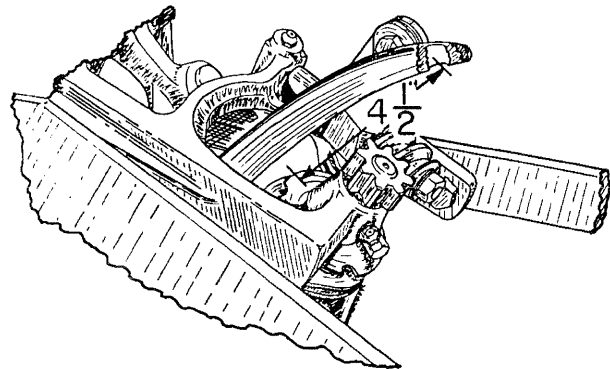

Fig.7
C. Trip the knotter and turn the flywheel clockwise by hand, until the needles are in the uppermost position. The distance from the bottom of the needle eye to the twine disc should be 4-1/2", Fig.7.